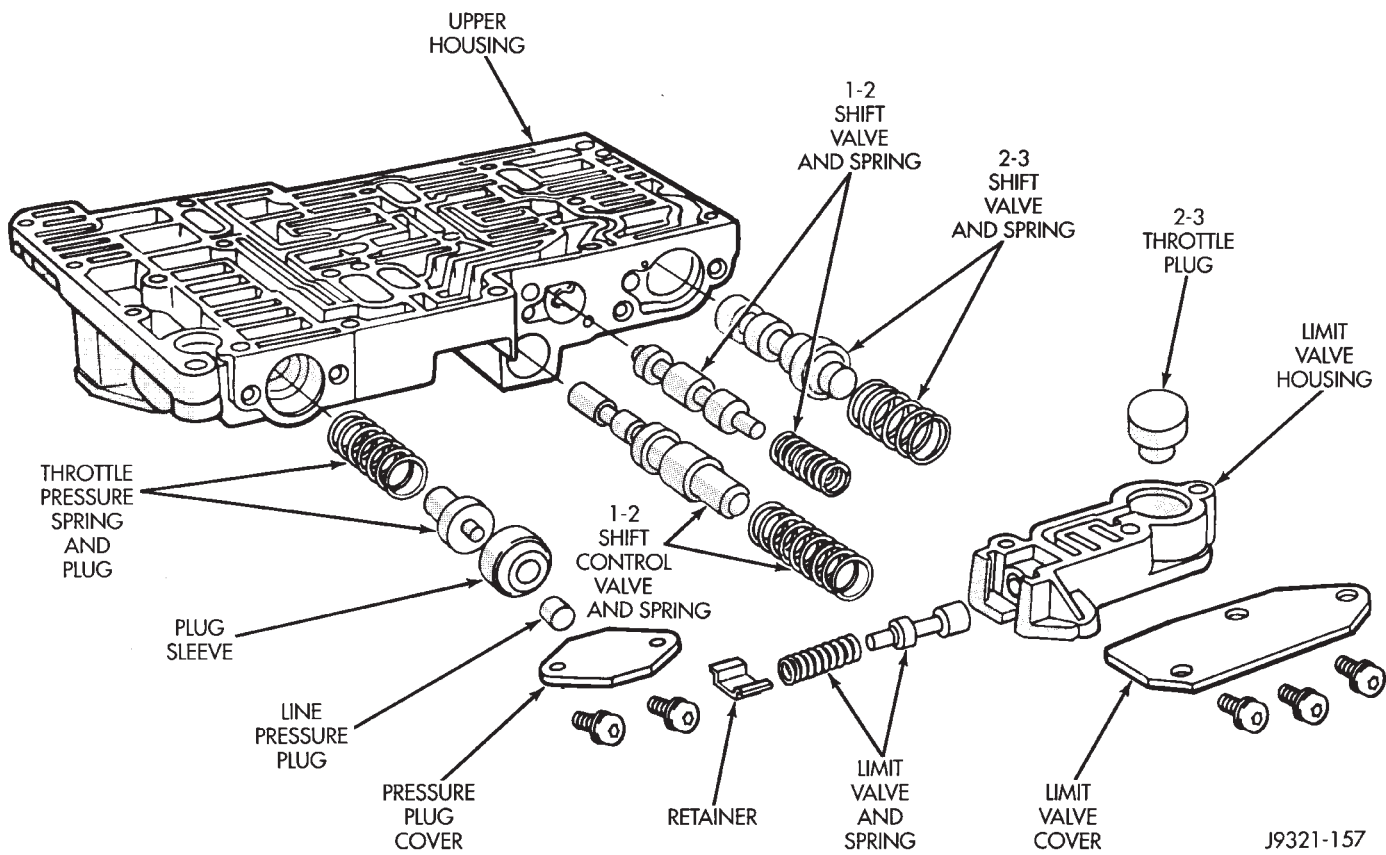

Fig. 65 Upper Housing Shift Valve And Pressure Plug Locations
(7) Turn upper housing around and remove limit valve and shift valve covers (Fig. 65).
(8) Remove limit valve housing. Then remove retainer, spring, limit valve, and 2-3 throttle plug from limit valve housing (Fig. 65).
(9) Remove 1-2 shift control valve and spring (Fig. 65).
(10) Remove 1-2 shift valve and spring (Fig. 65).
(11) Remove 2-3 shift valve and spring from valve body (Fig. 65).
(12) Remove pressure plug cover (Fig. 65).
(13) Remove line pressure plug, sleeve, throttle pressure plug and spring (Fig. 65).